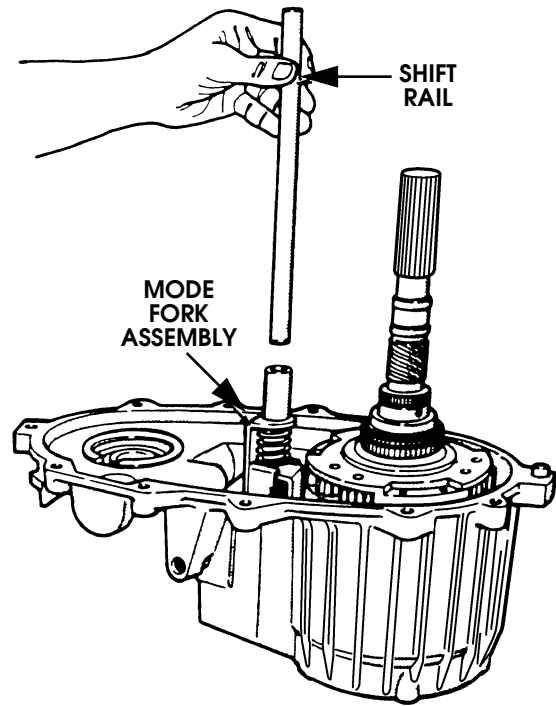

Figure 5-96: Shift Rail Removal/Installation
18. Remove shift rail (Figure 5-96).